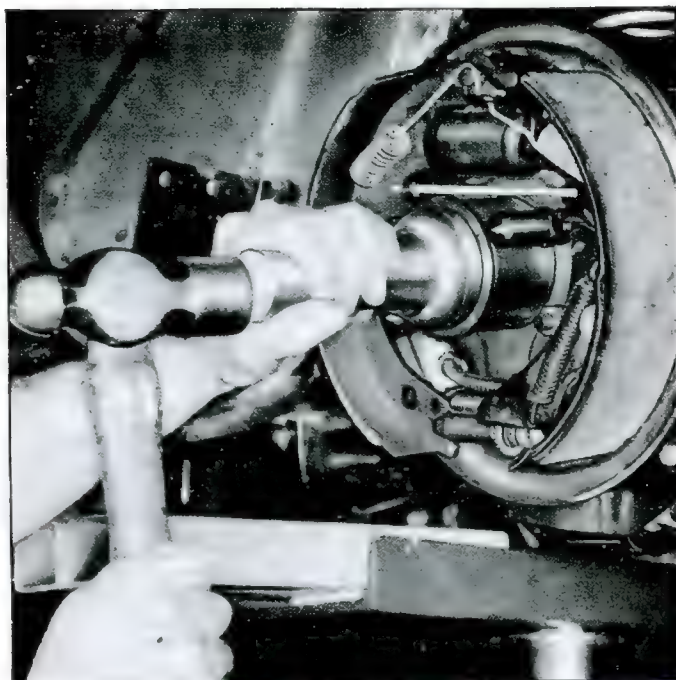

Fig. 74—Installing Spindle Support Outer Seal
5. Position support outer seal on Tool J-21842 (align notches in seal with slots in tool) and install seal in support (fig. 74).